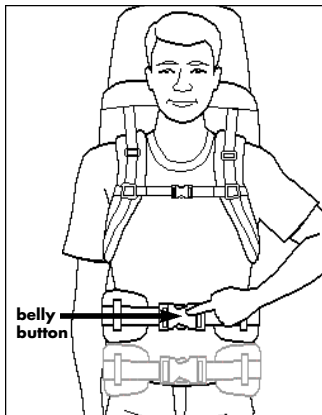

Figure 3
2. **NEXT** put the pack on and tighten the waistbelt. Make sure you place the waistbelt in the proper location (see Figures 3 & 4).
It is recommended to wear the belt on hip bones, just under the rib cage. If you still prefer to wear the belt low, add one to two inches to your torso length measurement. Figure 3 shows both the preferred placement of the waistbelt and an example of a belt worn low. The low position is not recommended. Once positioned correctly, tighten the belt to prevent it from sliding. (A good rule of thumb is to have the belt buckle approximately over your belly button.)